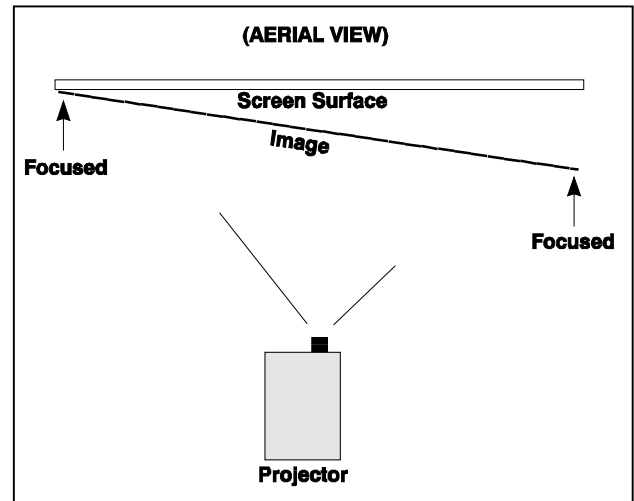

Figure 2.38. Example of Poor Left/Right Boresight
1. Adjust focus at the far left center edge of the image (Figure 2.38). If possible, reduce image size for easier image analysis.